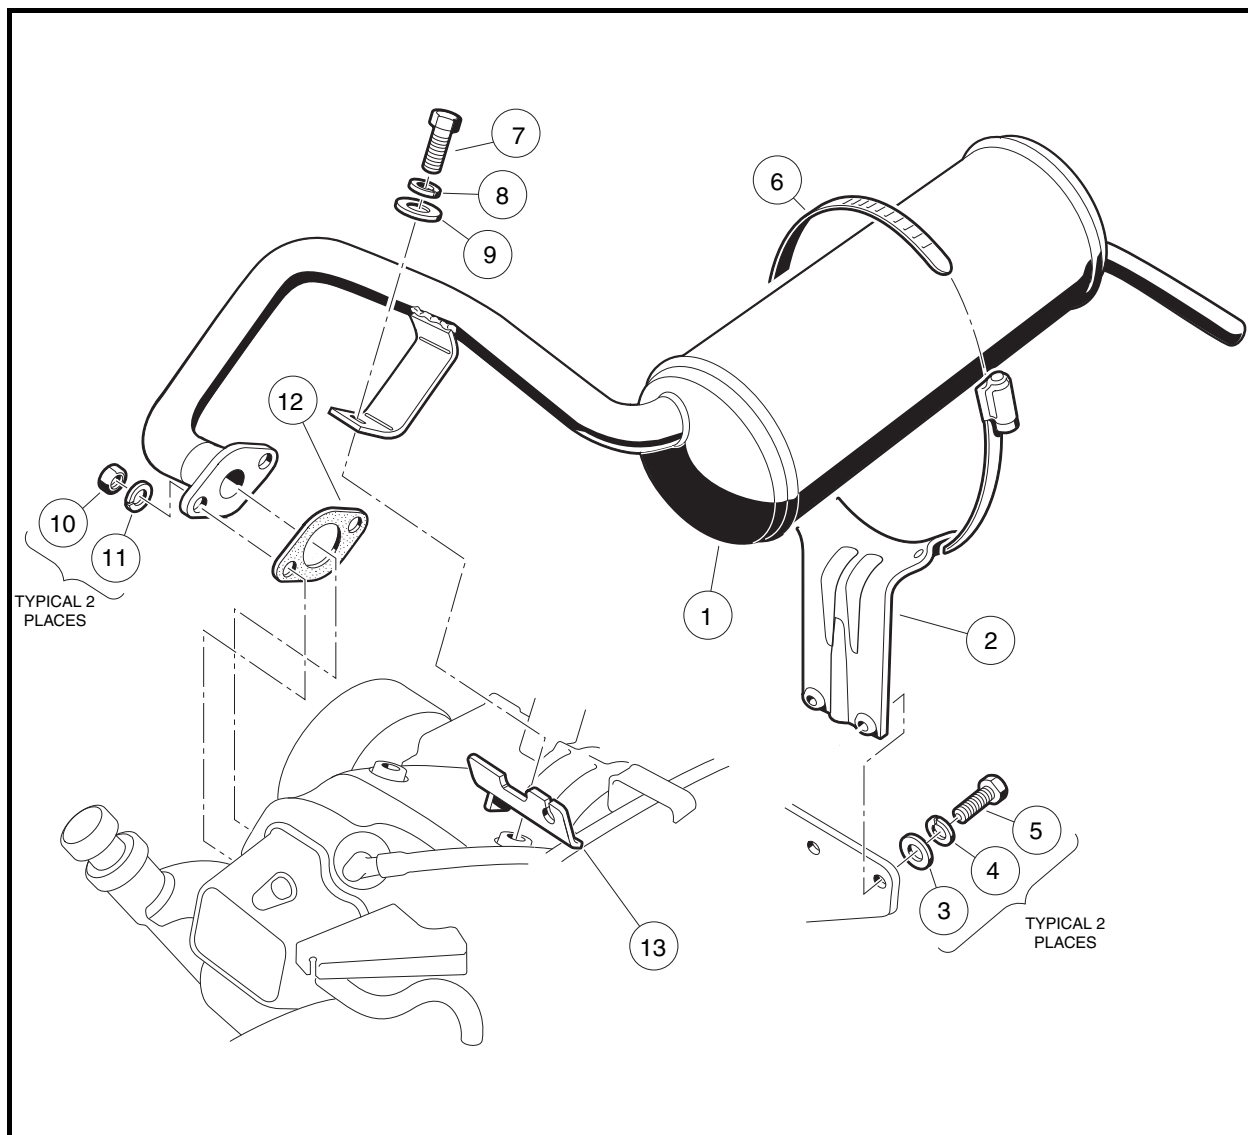

Figure 15-1 Exhaust System – FE400 Engine
4. Remove the muffler clamp (6) from the muffler (1) and clamp bracket (2) (**Figure 15-1, Page 15-2**).
5. Remove the hex-head cap screw (7), lockwasher (8) and flat washer (9) from mounting bracket. Retain the governor cable bracket (13).
6. Remove the hex nuts (10) and lockwashers (11) from the manifold.
7. Remove the muffler (1) from the vehicle.
**NOTE:** Any time the muffler is removed from the vehicle, install a new muffler clamp (6) (CC P/N 1017689) and muffler gasket (12) (**Figure 15-1, Page 15-2**).
1. Loosely attach muffler (1) to muffler bracket (2) with clamp (6) (**Figure 15-1, Page 15-2**).
2. Place a new gasket (12) on the cylinder block exhaust stud bolts.
3. Attach muffler manifold with lockwashers (11) and hex nuts (10) and tighten finger-tight.
4. Loosely attach muffler (1) mounting bracket and governor cable bracket (13) using hex-head cap screw (7), lockwasher (8) and flat washer (9).
5. Tighten manifold hex nuts (10) to 11 ft-lb (14.9 N·m).
6. Tighten hex-head cap screw (7) to 14 ft-lb (18.9 N·m).
7. Tighten muffler clamp (6) to 40 in-lb (4.5 N·m).